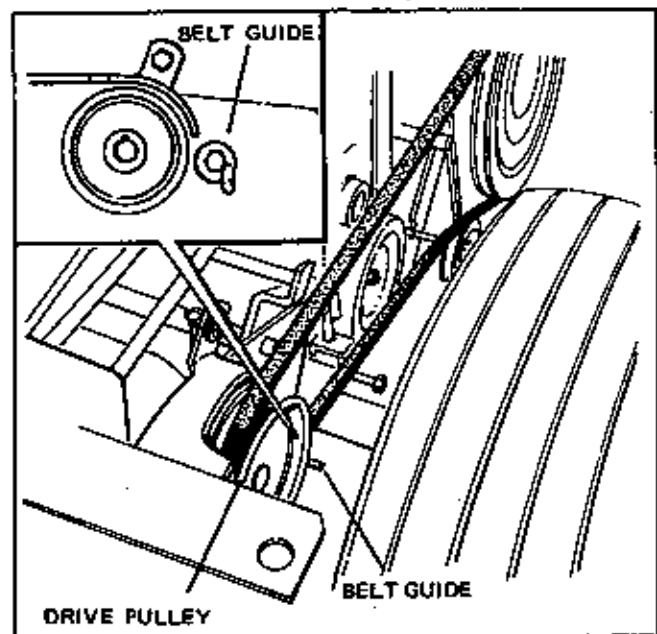

Figure 2
5. Assemble pulley with hub facing in to power take-off shaft on bevel gear housing provided. (Figure 2). Attach belt stop to tractor. Capscrew, washers and nut are provided on tractor. (Figure 2).
6. Position "V" belt on pulleys. (Figure 2). Check to insure pulleys are aligned properly.